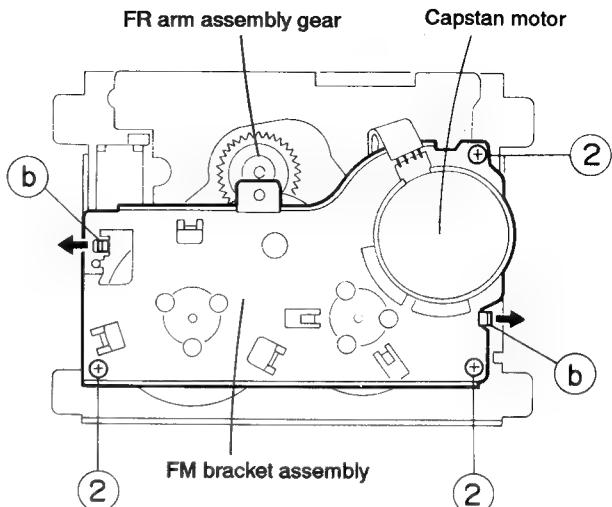

Fig. 5-42
1. Remove the three screws ② retaining the FM bracket assembly (See Fig. 5-42).
2. While opening the two engagements ⑥ fixing the FM bracket assembly to outside, remove the bracket assembly (See Fig. 5-42).